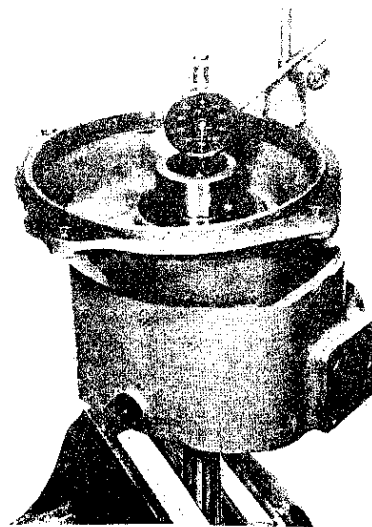

Fig. 15
3. Turn the front housing so that it stands on the connection flange, and then fit the engaging sleeve (31) on the shaft (36). Note! The drilling in one end of the engaging sleeve must face away from the front housing.
4. Place the needle bearings (37 and 39) as well as the spacer ring (38) on the shaft (36).
5. Place a new gasket (3) on the end of the front housing. Note! The holes for the guide pin (50) in the gasket must be opposite the pins.
7. Assemble the intermediate housing and front housing. Turn the intermediate gear shafts (51) with a screwdriver so that the lock pins (50) enter the grooves in the shaft ends.
8. Press the pin (42) into the shaft (36).
9. Fit the brass washer (40) on the shaft. The washer groove must be opposite the pin (42).
10. Secure the brass washer with the circlip (41). Note! Use a new circlip. This operation is made easier if the shaft is lifted upwards.
12. Screw tight the four bolts (2) together with their washers.
13. Tighten the bolt (10) to a torque of 100 Nm (72 lbf·ft). Measure the axial clearance for the shaft assembly (see Fig. 15). This clearance should be 0.2–0.3 mm (0.008–0.012"). Increase or decrease the number of shims until the correct clearance is obtained. Shims are available in two thicknesses: 0.1 and 0.5 mm (0.004 and 0.020").
14. Fit the O-ring (11) on the sleeve (31). Apply a little grease to the O-ring and press the sleeve into the gear wheel. Observe due care so as not to damage the O-ring.
15. Secure the sleeve with the circlip (6).
3. Turn the front housing so that it stands on the connection flange. Then fit the engaging sleeve (36) on the shaft (42). Note! The drilling in one of the engaging sleeve ends must face away from the front housing.
4. Place the needle bearings (43 and 45) as well as the spacer ring (44) on the shaft (42).
5. Place a new gasket (3) on the front housing end. Note! The holes for the guide pins (55) in the gasket must be opposite the pins.
7. Assemble the intermediate housing and front housing. Turn the intermediate gear shafts (56) with a screwdriver so that the lock pins (55) enter the grooves on the shaft ends.
8. Press the pin (57) into the shaft (42).
9. Fit the brass washer (46) and the steel washer (47) on the shaft. The groove on the washers must be opposite the pin (57).
10. Secure the brass washer and steel washer with the circlip (48) NOTE! Use a new circlip. This operation is made easier if the shaft is raised.
13. Tighten the screw (11). The tightening torque is 100 Nm (10 kpm = 72 lbf·ft). Measure the axial clearance in the shaft assembly (see Fig. 15). The clearance should be 0.2–0.3 mm (0.008–0.012"). Increase or decrease the number of shims until correct clearance is obtained. Shims are available in two thicknesses: 0.1 and 0.5 mm (0.004 and 0.02").
14. Place the O-ring (12) on the sleeve (10). Apply a little grease to the O-ring and press the sleeve into the gear wheel. Take care not to damage the O-ring.